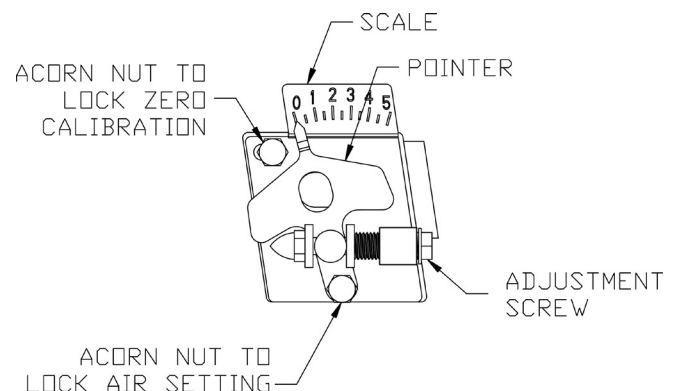

Figure 8-5: Head/Air Adjustment Plate Assembly
- m. Loosening the splined nut and lower acorn nut, and, turning the adjustment screw, either forward or, rearwards, will adjust the head/air plate. DO NOT LOOSEN UPPER LEFT ACORN NUT, which locks zero head/air setting. See Figure 8-5.
- a. Move the Head/Air Setting forward or back one position at a time to optimize the smoke and CO₂ readings. See Figure 8-5.